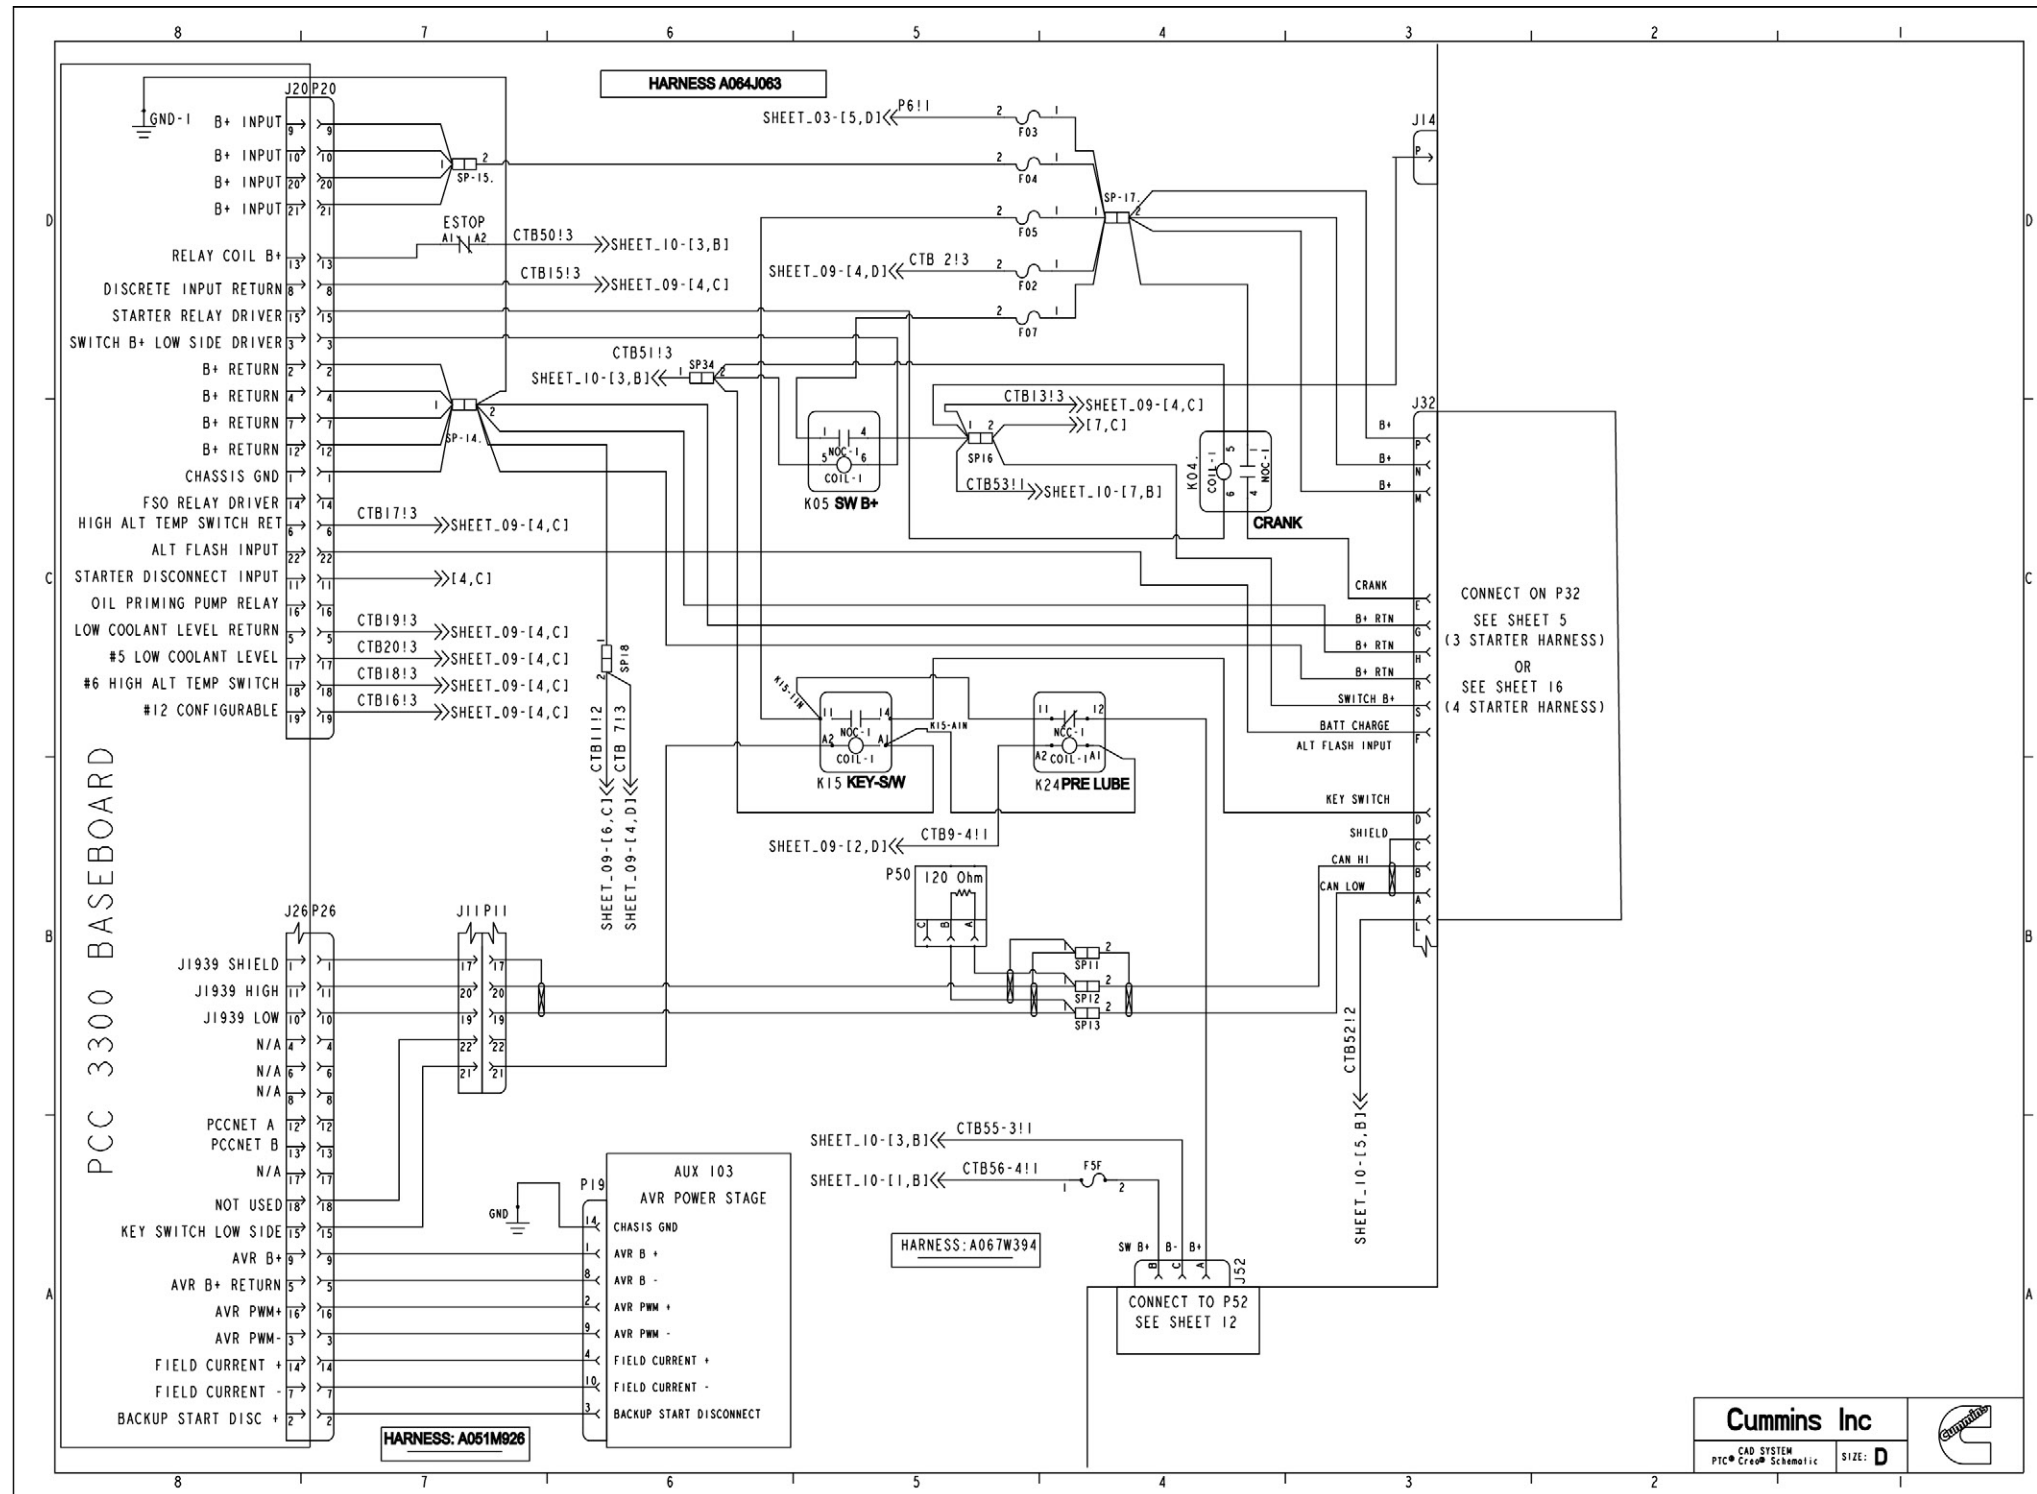

FIGURE 59. WIRING SCHEMATIC (SHEET 4)
- Figure 59. Wiring Schematic (Sheet 4) 114